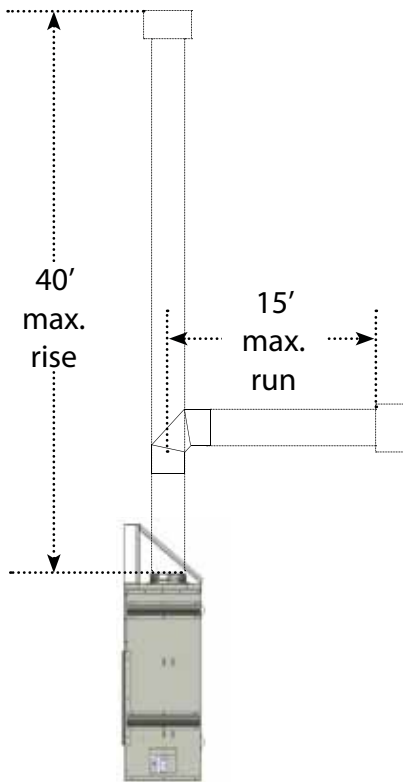

Figure 24- Maximum Venting
- All measurements are taken from the center of the vent connector on the top of the Halcyon cabinet (see *Figure 24*) and all configurations must fall within the acceptable range of *Chart 1*.